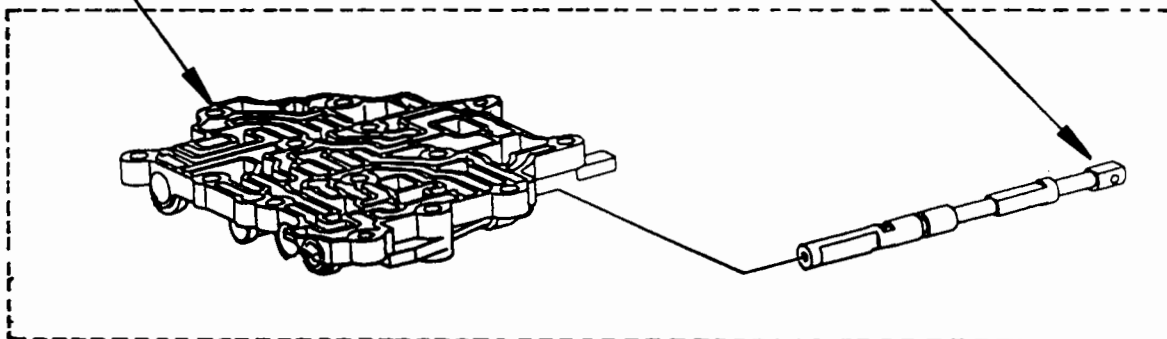

Figure 5
- CORRECTION: Remove the valve body and rotate the manual valve so that the "Flat" is facing UP TOWARDS THE TOP PAN, as shown in Figure 5. Re-install the valve body and torque to proper specifications.